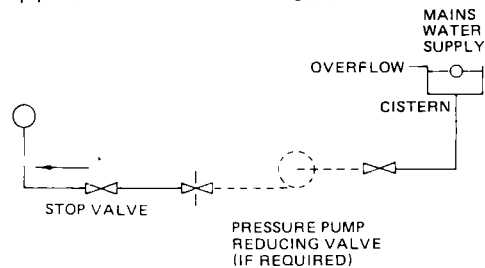

FIG 7 FULLY PUMPED SYSTEM
- ii) where access to a make-up vessel would be difficult by using the mains top up method or a remote automatic pressurisation and make-up unit as illustrated in FIG. 7 METHODS 1 and 2.
The system shall be fitted with a filling point at low level which incorporates a stop valve to BS1 010 and a double check valve (approved by the National Water Council) to be fitted in this order from the system mains, Refer to FIG. 7. Method 1.